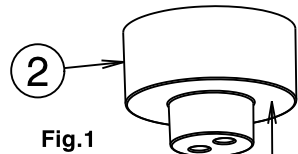

Fig.1
1a) Prior to pouring of the concrete slab, install the pipework for hot & cold water supplies in accordance with AS/NZS 3500.1. Slide the installation template (2) over the vertical section of each pipe (1) which will penetrate the slab and position the bottom face (see Fig.1 above) of the template at the approximate finished floor level. Crimp or cap the end of each pipe taking care that heat does not damage the installation template (2). Tag the pipe which will supply hot water for identification later in the installation.
1c) Mark the centre position of the desired location for the Mixer then drill a hole $\varnothing 60 \pm 2$ mm through the flooring base materials. Install the pipework for hot & cold water supplies in accordance with AS/NZS 3500.1. Slide the installation template (2) over the vertical section of each pipe (1) protruding from the floor and position the bottom face (see Fig. 1 above) of the template on the top surface of the floor. Crimp or cap the end of each pipe taking care that heat does not damage the installation template (2). Secure the pipework under the floor using suitable brackets, clips or hangers. Care must be taken that undue strain is not applied to the vertical pipe legs which may influence the pipe centres when the installation template is removed after floor trades are complete.